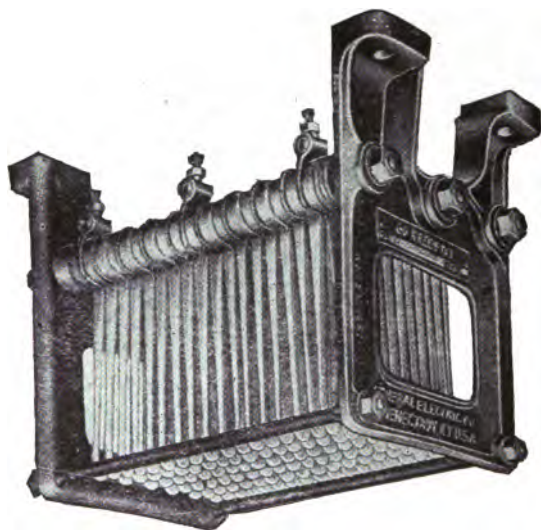

Fig. 483. Motor Control Rheostat.
13. THE RESISTANCE (Fig. 483) is located beneath the car, near the contactors, and is made up of cast iron grids mounted in, and insulated from, an iron frame.